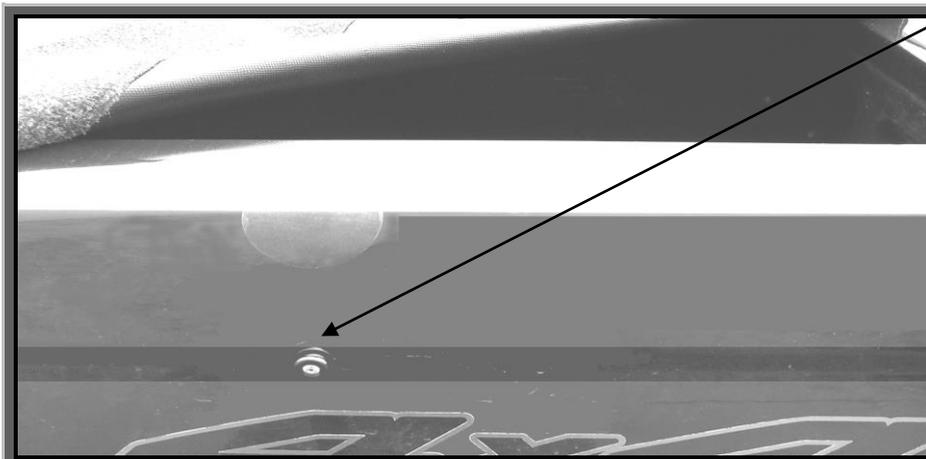

Figure 3
8. To fit the rope buttons to tub, use the panel crease in both the tailgate and side panels as a reference line, See Figure 3. Starting with the tailgate, line up vertically each button to each ring grip and drill and rivet each button to the crease, so that the top edge of the button is in line with the top edge of the crease. For the side panels, follow the same procedure as with the tailgate, drill and rivet buttons alternating from one side to other side of the tub.